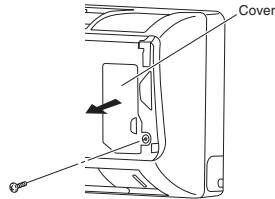

Fig. 3-49
- (1) Grasp both ends of the air intake grille, and remove it by opening toward the front and pulling it toward you.
- (2) Remove the screw on the right side cover plate and open the cover. (Fig. 3-49)